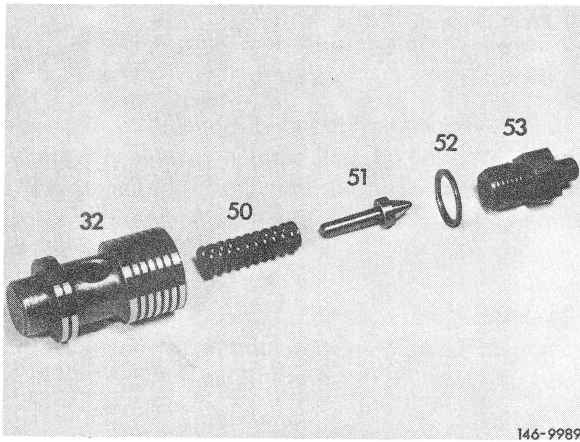

Fig. 10
13 Install pressure relief valve into volume control valve. First insert compression spring (50), then valve cone (51). Then insert spacing washers (52) into valve screw (53) for adjusting opening pressure (Fig. 10).
Attention! Be sure to use the same washers as before (Fig. 10).
14 Clamp volume control valve (32) at its unground end into vise, screw-in valve screw (53) and tighten (Fig. 10).